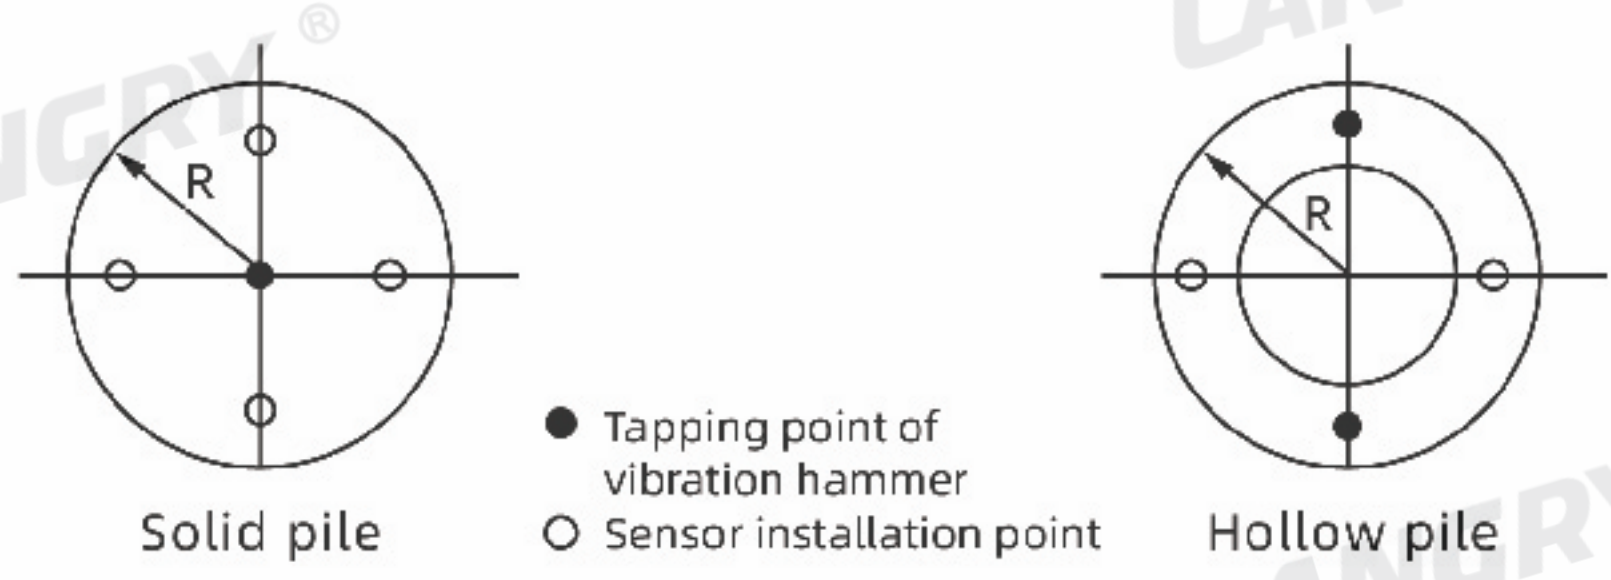

Figure 3-2 Schematic diagram of sensor installation points and excitation tapping points
1. According to the size of the pile diameter, 2-4 monitoring points for installing sensors should be symmetrically arranged at the center of the pile: the excitation point for solid piles should be selected at the center of the pile, and the detection point should be located at a radius of $\frac{2}{3}$ from the center of the pile; The excitation and detection points of hollow piles should be at $\frac{1}{2}$ of the pile wall thickness, and the angle formed by the connection between the excitation and detection points and the pile center should be 90° , as shown in Figure 3-2;